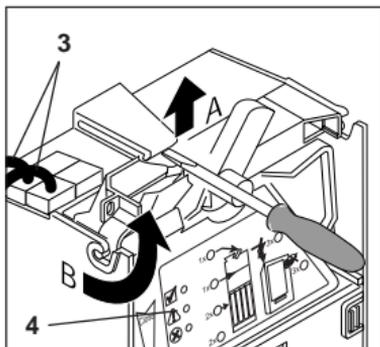
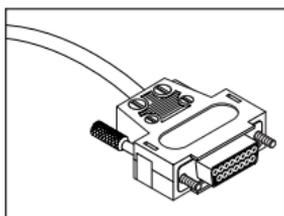

Fig. 4c: Removing the coin validator
Fig. 4d: Plug for display
- 3 Pull out the coin validator (see Fig. 4c).
- 6 Connect the changer to the vending machine using the proper connecting cable 3 (see Fig. 4c) and also connect any external devices, such as the display (see Fig. 4d) or bill validator, to the changer.
- 8 Reconnect the vending machine to the mains supply. The three LEDs 4 on the coin validator light up briefly to test their function. Afterwards, the green LED lights up. The changer is operational (see Fig. 4c).
- 1 Remove the coin validator and pull off the connecting cable (see Fig. 4c).